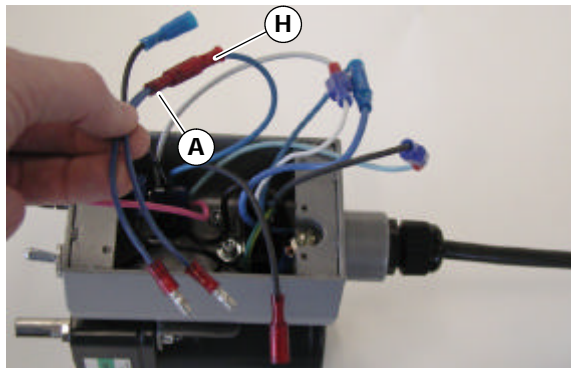

Figure 17
**12a.** Connect female end of wiring harness (A of Figure 17) to dark blue wire (H).